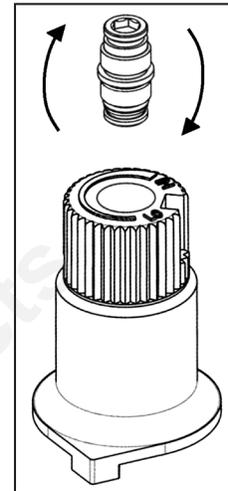

Figure 11: Flip
- d) Flip the screw (refer to Figure 11).